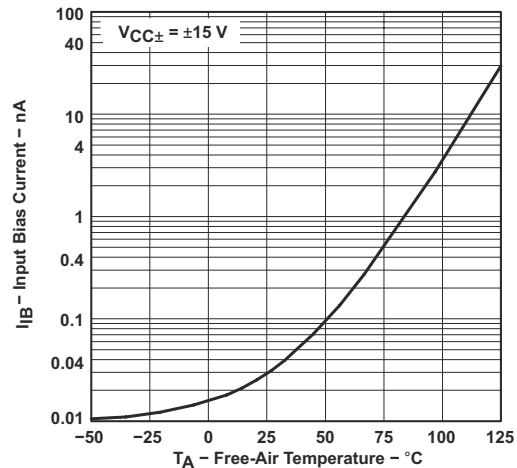

Figure 6-12. Input Bias Current vs Free-Air Temperature
- (1) All characteristics are measured under open-loop conditions with zero common-mode input voltage unless otherwise specified. Full range for T_A is 0°C to 70°C for TL06xC, TL06xAC, and TL06xBC and -40°C to 85°C for TL06xI.
- (2) Input bias currents of an FET-input operational amplifier are normal junction reverse currents, which are temperature sensitive, as shown in Figure 6-12. Pulse techniques are used to maintain the junction temperature as close to the ambient temperature as possible.
- (3) Assured by design and characterization; not production tested.
- (1) All characteristics are measured under open-loop conditions with zero common-mode input voltage, unless otherwise specified. Full range for T_A is 0°C to 70°C for TL06xC, TL06xAC, and TL06xBC and -40°C to 85°C for TL06xl.
- (1) This parameter is not production tested.
- (2) All characteristics are measured under open-loop conditions, with zero common-mode voltage, unless otherwise specified.
- (3) Input bias currents of an FET-input operational amplifier are normal junction reverse currents, which are temperature sensitive, as shown in Figure 6-12. Pulse techniques are used to maintain the junction temperature as close to the ambient temperature as possible.
- (4) Assured by design and characterization; not production tested.